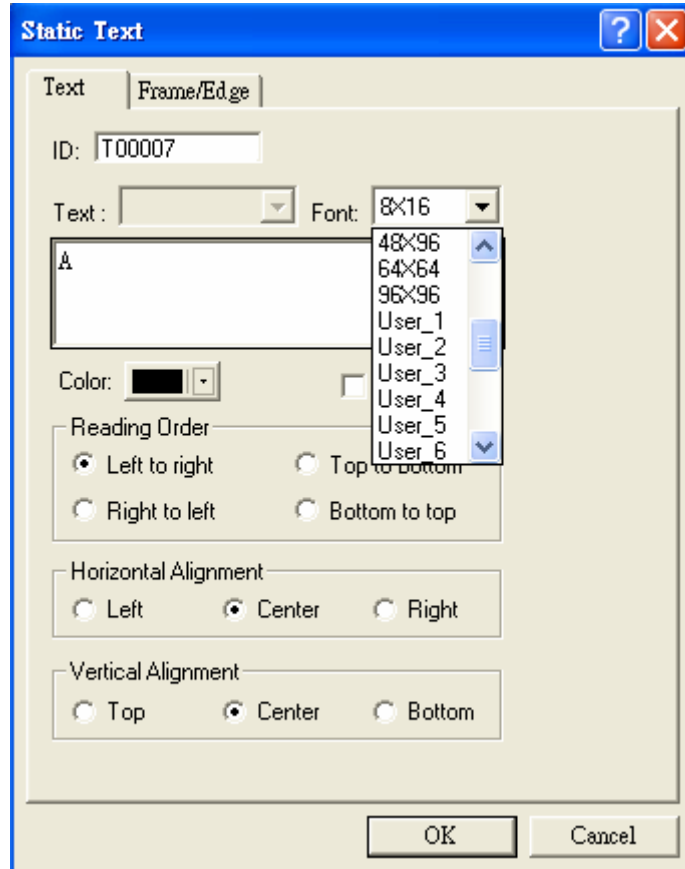

Figure 83. The [Static Text] Dialog Box
- [Frame/Edge] Tab: Click [Select] button to specify the style of frame/edge as Figure 83.